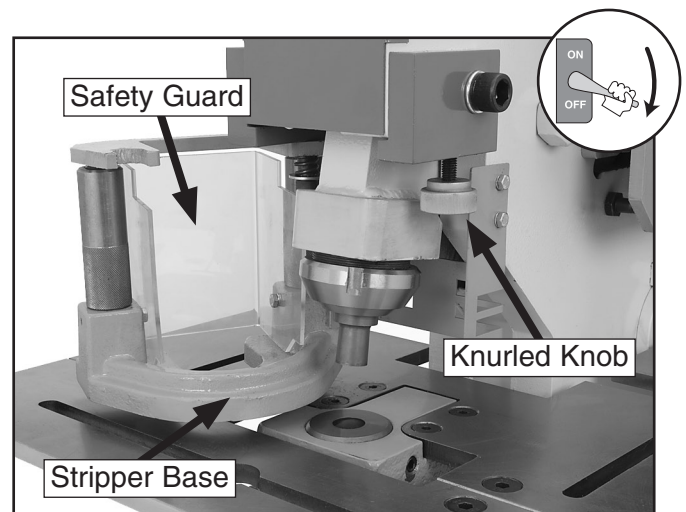

Figure 19. Punch stripper and safety guard assembly positioned away from the punch and die.
- Loosen the knurled knob securing the right side of the stripper and safety guard assembly, then swing it away from the punch and die, as shown in **Figure 19**.